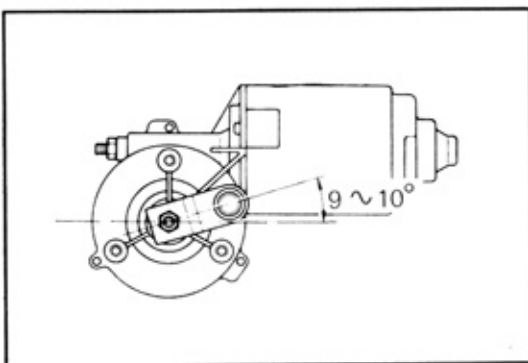

Fig. 3-21 Crank Arm Installed Position
1. Install the crank arm so that it will be positioned as shown in Fig. 3-21 when the wiper motor is at its automatic stop position.